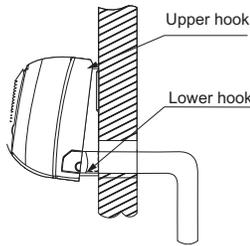

Fig. 20 – Indoor Unit Installation
8. Push lower part of indoor unit up on wall, then move indoor unit from side to side, up and down to check if it is hooked securely (see Fig. 20).